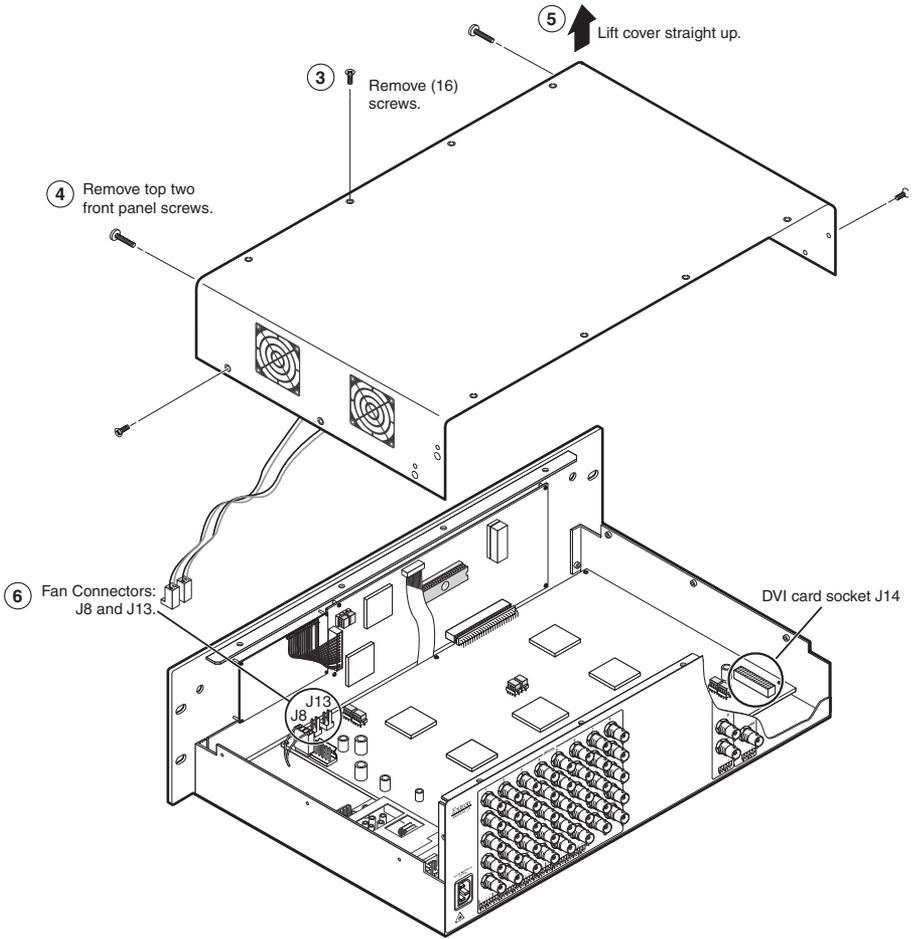

Figure 1 — Removing the switcher cover
3. Remove the 16 screws from the switcher, 8 on the top and 4 on each side of the cover (figure 1).